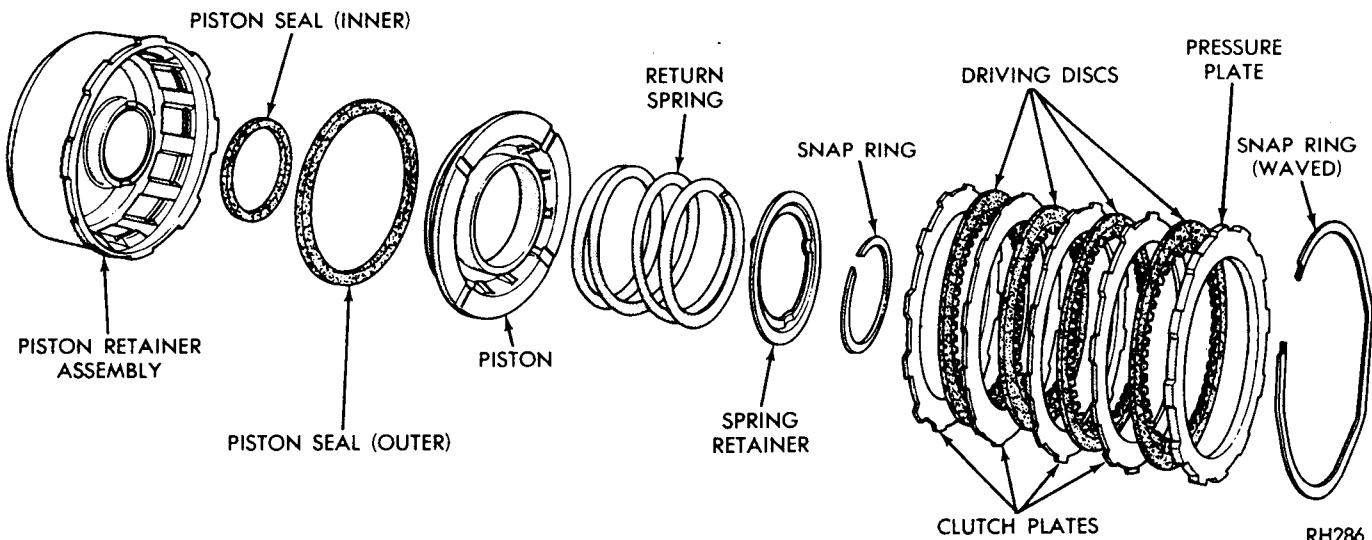

Fig. 18—Front Clutch (A-904T and A-999)
Figure 18 shows a disassembled view of the front clutch assembly.
(1) Lubricate and install inner seal on hub of clutch retainer. Make sure lip of seal faces down and seal is properly seated in the groove (Fig. 18).
(2) Install outer seal on the clutch piston, with lip of seal toward bottom of clutch retainer. Apply a coating of wax type lubricant or Door Ease to outer edge of seals and press seal to bottom of its groove around piston diameter for easier installation of piston assembly. Place piston assembly in retainer and carefully seat piston in bottom of retainer.